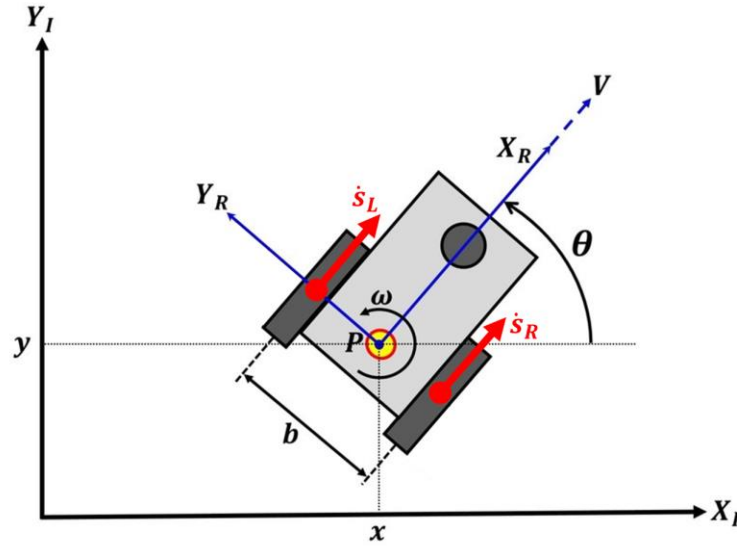
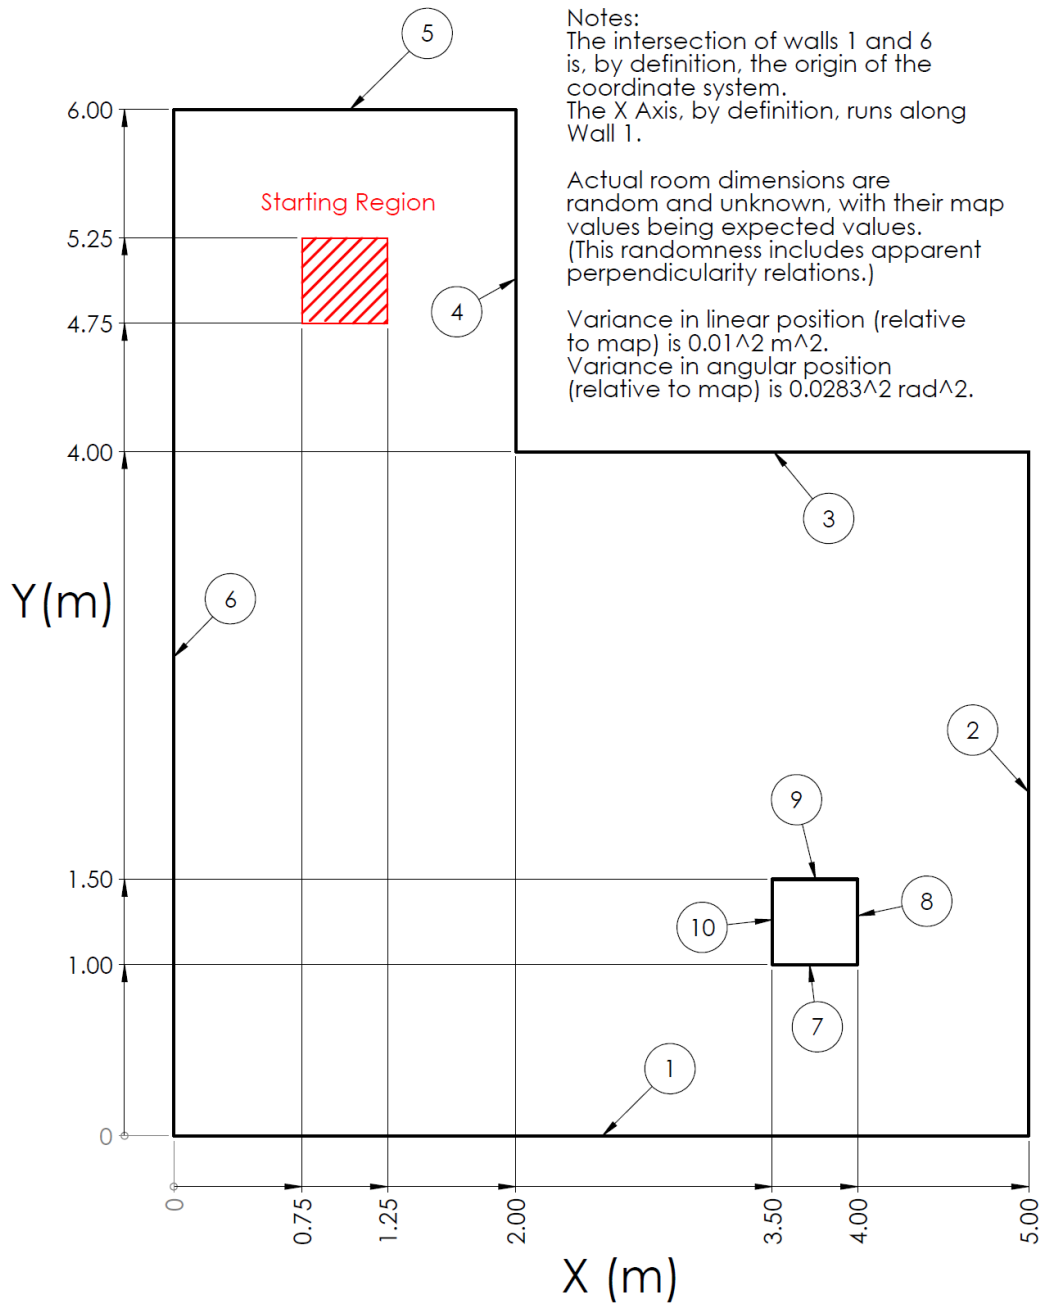

Figure 2. Diagram illustrating main odometry-related quantities
Figure 3. Map of the room traversed in this problem, with walls labeled
In this context-oriented project, you will simultaneously estimate the pose (position and orientation) of a wheeled robot in a room, and the position and orientation of the 10 walls in the room. A map of the room is shown in Figure 3. First, you will estimate the pose trajectory of the robot based solely on odometry (wheel rotation measurement) data motor encoders. Next, you will integrate LIDAR data to leverage knowledge of the structure of the room to improve the pose estimate from that of odometry alone. This process simultaneously allows for improvement of the robot's model of the room. The Extended Kalman Filter will be the filter of choice for this analysis.
Let's assume that the central point of the robot, P in Figure 2, has a uniform probability of starting anywhere in a square starting region, marked red in the map in Figure 3. Let's also assume that the initial orientation of the robot is independent of its starting position, and has a uniform probability of being between $-5\pi/9$ and $-4\pi/9$ radian (centered about pointing in the negative y direction).
Now that you have an effective prediction model set up, the next step will be to integrate the structure of the room (i.e., the location of each of the 10 walls) and measurements by the LIDAR mounted on the robot (centered on point *P* in Figure 2, for simplicity), in order to correct the robot pose estimate, and to learn about the room.
d) Based on the map in Figure 3 and the Notes therein, **generate an initial a priori estimate and initial covariance for the entire augmented state.** Assume that all elements of the initial a priori augmented state estimate are independent.
Hint 1: You've already calculated the robot pose section of the initial a priori augmented state estimate and covariance. For the wall parameters section, use the dimensions in the map in Figure 3 to generate the state estimate. Refer to the Notes in the Figure for information on variance.
For extra credit, implement in `part_i_fitted_scan_labeler.m` an algorithm that automatically assigns each wall partition in a scan to a “true” wall label, corresponding to the wall labels in the map in Figure 3. This algorithm is allowed to take as inputs the estimated full augmented state x_t , as well as the LIDAR data, and any post-processed output of the LIDAR data generated by functions you have created. You are NOT allowed to use `scan_partition_labels.csv`. *Hint: See the SLAM Lecture Slides on “Data Association”.*